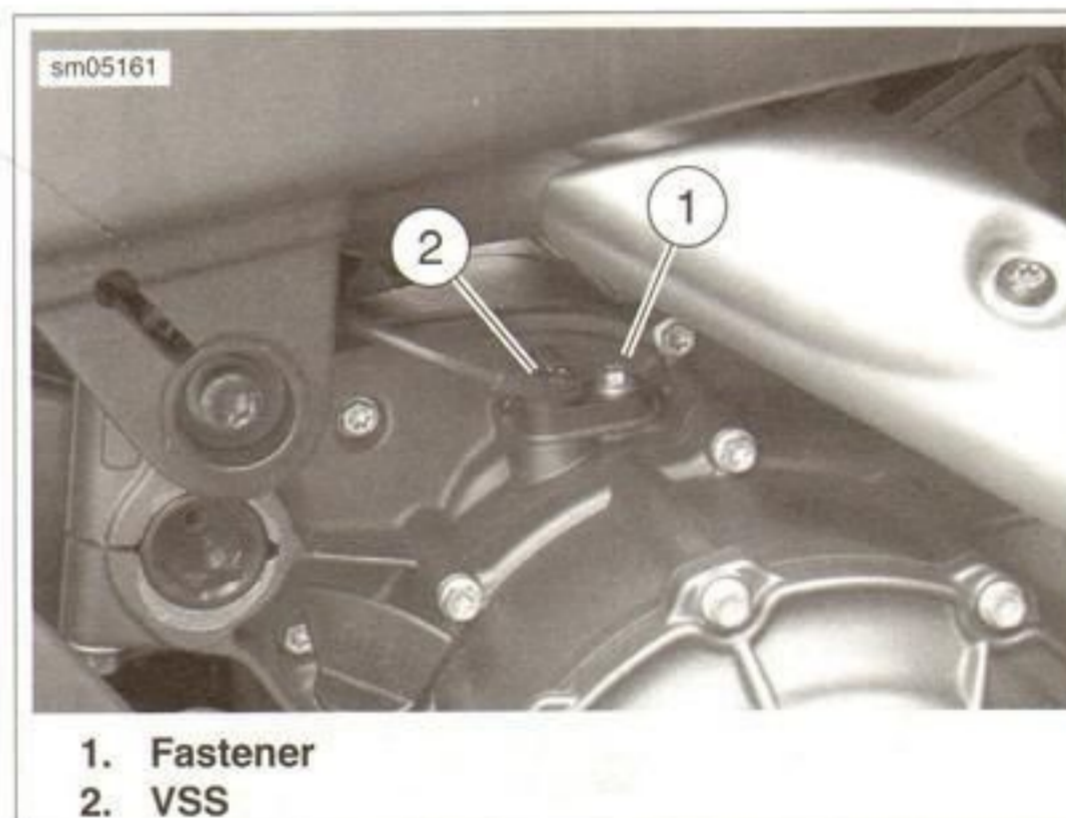

Figure 7-96. Vehicle Speed Sensor
7. See Figure 7-96. Remove fastener (1) to detach VSS (2) from crankcase.
2. See Figure 7-96. Install VSS (2) to crankcase and secure with fastener (1). Tighten fastener to 11 Nm (97 in-lbs).